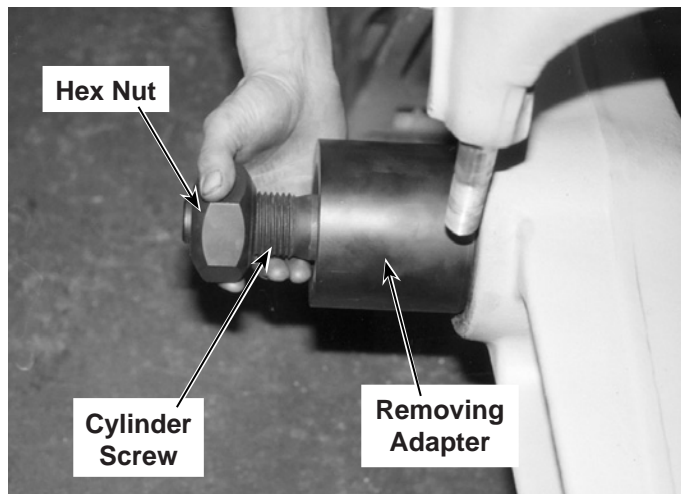

Figure 6
8. Install the removing adapter (310248) over the cylinder screw, from the back side of the beam. Assemble the hex nut (302028) on the cylinder screw. See Figure 6. **CAUTION: To prevent equipment damage, the hex nut must be completely threaded all the way down the cylinder screw (full thread engagement).**